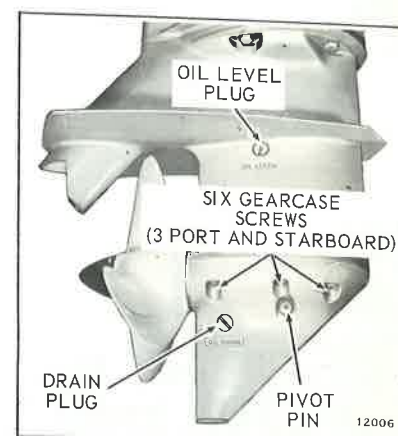

Figure 6-14. Gearcase Screws
- c. Drain gearcase. Remove shift rod pivot pin and six screws attaching gearcase halves. See Figure 6-14. Separate gearcase halves.